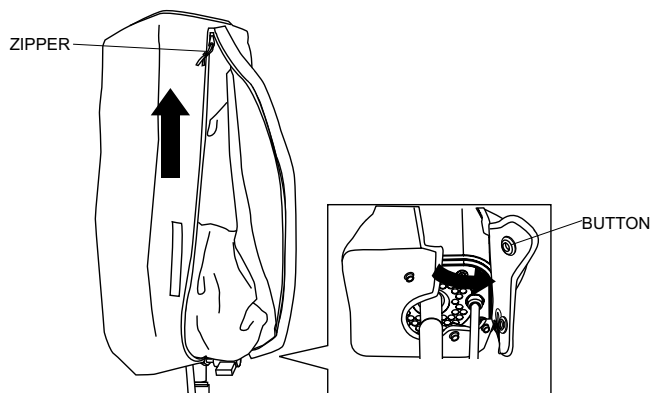

Figure 8. Unzipping Balloon Cover
6. Unsnap the three buttons on the bottom of the balloon cover and unzip the cover. See Figure 8.